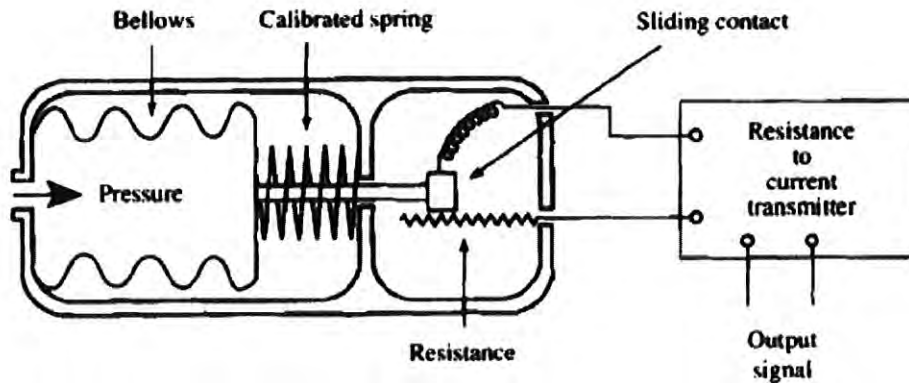

Figure 5: Bellows-resistance pressure sensor
- a) An optical encoder is used with a 10 cm diameter tracking wheel to measure linear displacement. The encoder generates 256 pulses per revolution (NR). Determine the total pulse count (NT) produced by the measurement of a linear displacement of 2 m. **(3 marks)**
b) A bellows pressure element as shown in Figure 5 has the following values: